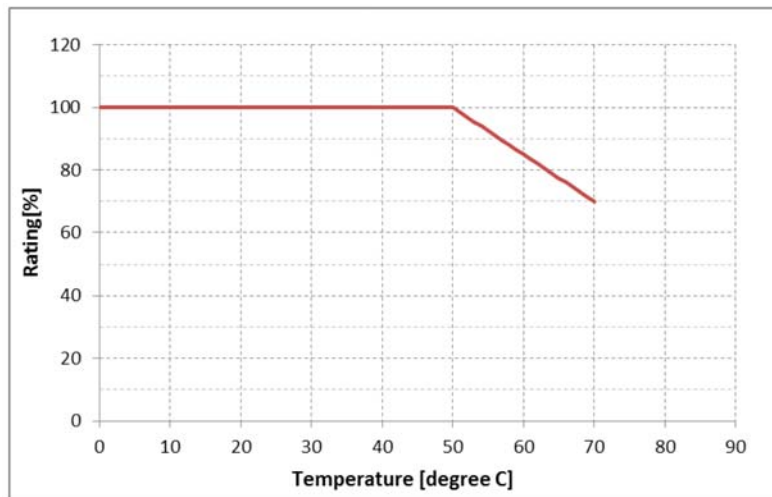

Figure 2: VFD68Bxx and VFD68Cxx Maximum Current Output Derating above 50°C
1. Surrounding air temperature is a temperature measured at a measurement position in an enclosure. Ambient air temperature is a temperature outside an enclosure. The VFD68 is designed to operate above 50°C by following the maximum output current derating limits show in Table 3 and Table 4 and Figure 2.